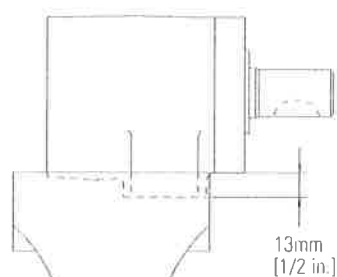

Figure 15
28. After removing bullet, clamp motor in vise as shown in Figure 15. Make sure shaft cannot fall out. Install dry screws and alternately torque them immediately to 250 lb-in [28 Nm]. If you use primer, allow to cure for 10 to 15 minutes. Without primer, allow 6 hours curing time before subjecting motor to high torque reversals. On all other applications, you can run motor immediately.